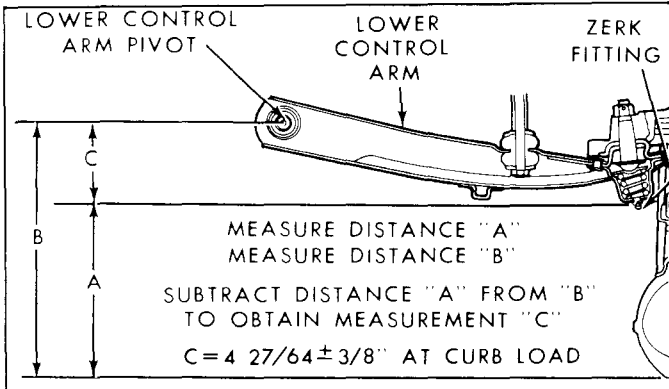

Fig. 3A-25—Measurement of Front Suspension Curb Load Riding Height—(60C-425)
4. To obtain the specified front suspension curb load riding height, refer to figure 3A-16 and follow the instructions noted on the illustration to obtain measurement "C". Distance "C" should measure 4 and 27/64 ($\pm 3/8$ inch).